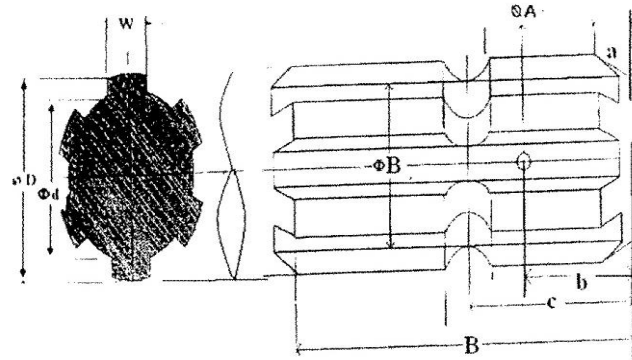

Fig. 1 Dimension of Implement Power Input Shaft
3.2	Power unit (Splined end of input shaft (Ref. Fig.1)):